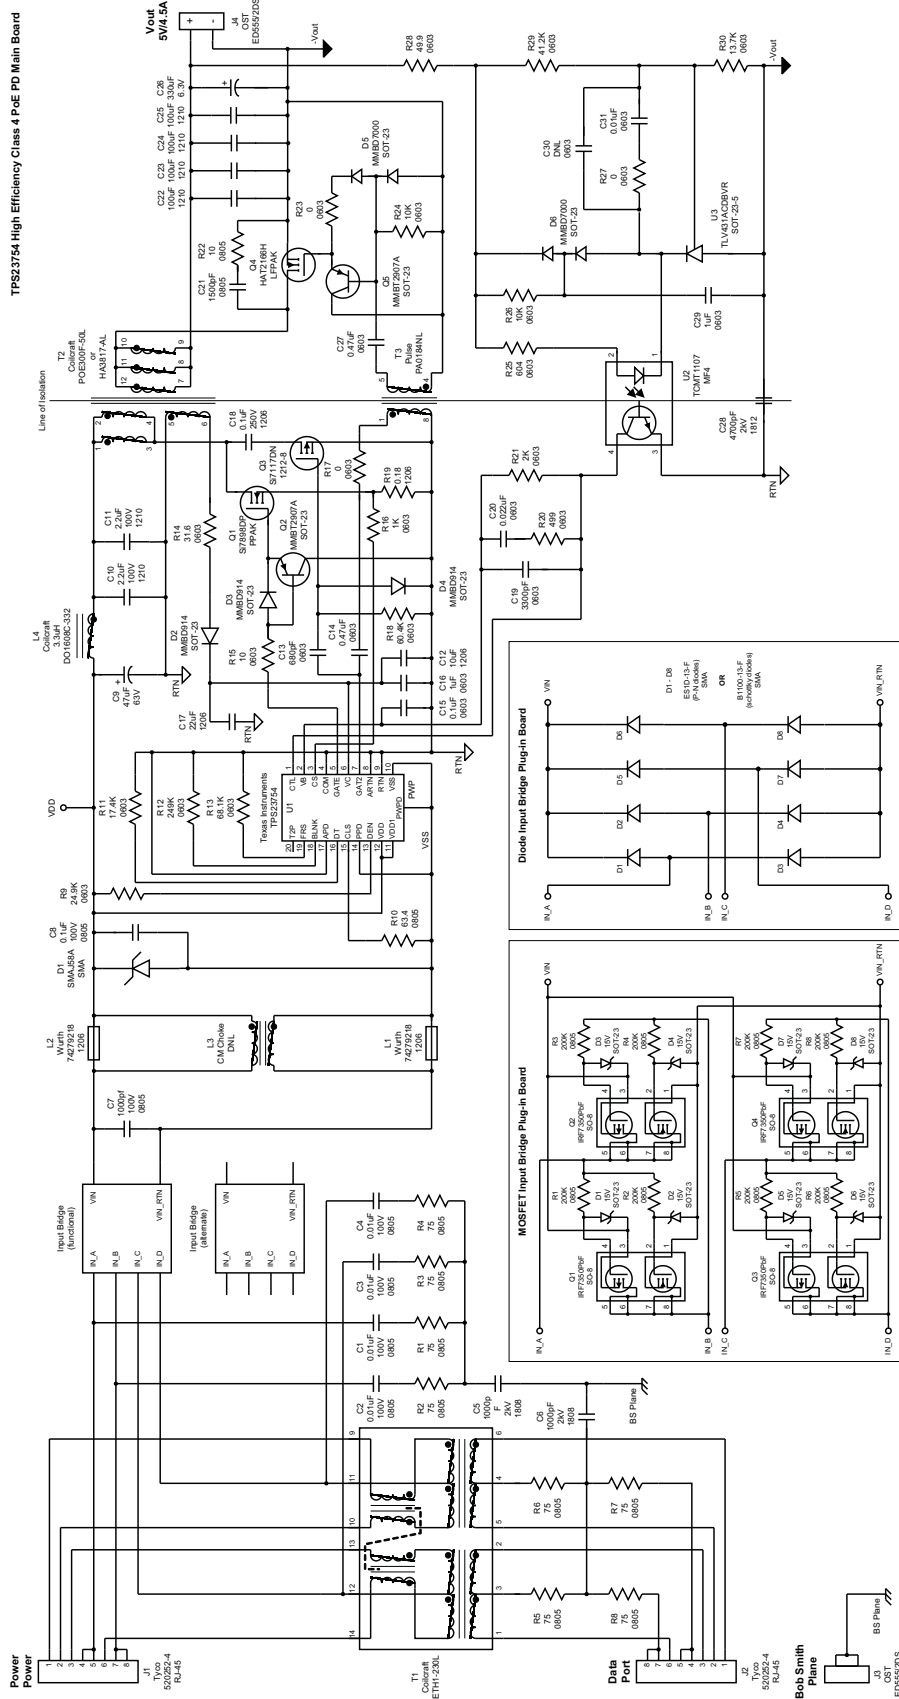

Figure 2. Schematic of the Class 4 PoE PD Demo Board
Figure 1 shows a photo of the demo board used for the Type 2, Class 4 PD. The related schematic is shown in Figure 2 and a Section 8 has been included. The demo board is seen to include a placeholder for retaining an alternate input bridge that is further discussed in Section 4.
In general, the schematic of Figure 2 includes an input section comprising front-end components typically used by a PD, a control section comprising the Texas Instruments TPS23754 PoE Interface/DC-DC controller, and an output section comprising a synchronous flyback converter. The TPS23754 controller is shown to feature a second gate drive pin (GAT2) that works in conjunction with a programmable dead-time pin (DT), which allows the user to optimize the converter efficiency by minimizing shoot-through and switching losses associated with the primary-side and secondary-side power MOSFETs.